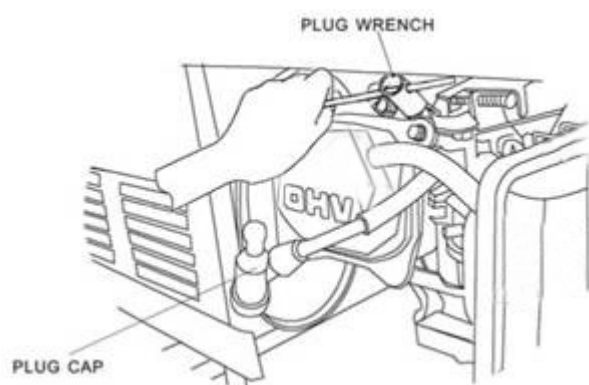

Figure 16 - Removing the Spark Plug
2. Unscrew the spark plug from this generator by using the included spark plug wrench as illustrated in Figure 16.
- Disconnect the spark plug. (See Figure 16, Removing the spark plug.)
1 year or more	Empty the fuel tank. (See “Emptying the Fuel Tank” in the “Maintenance/Care” section.) Disconnect the spark plug. (See Figure 16, Removing the spark plug.)